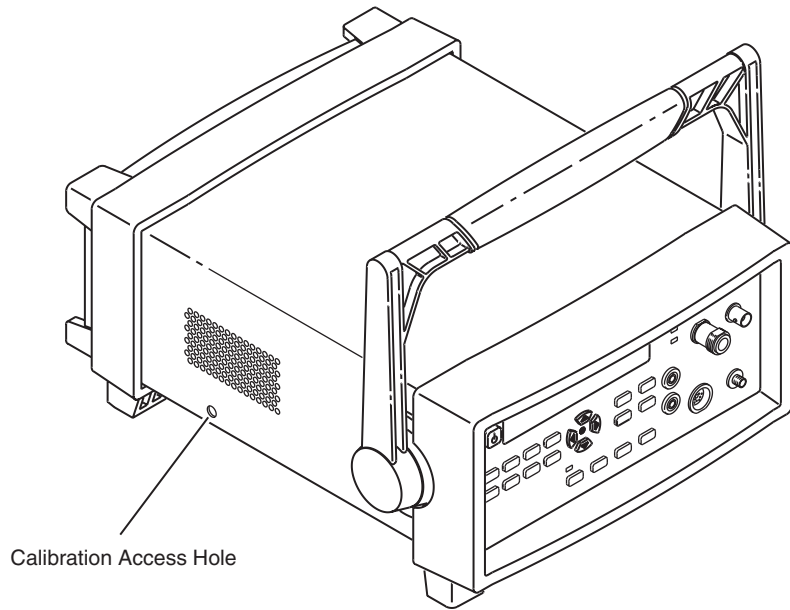

Figure 2-1. Calibrating the 10 MHz Frequency Reference Oscillator
- 3** If there is a label covering the calibration adjustment access hole, remove it (see Figure 2-1).